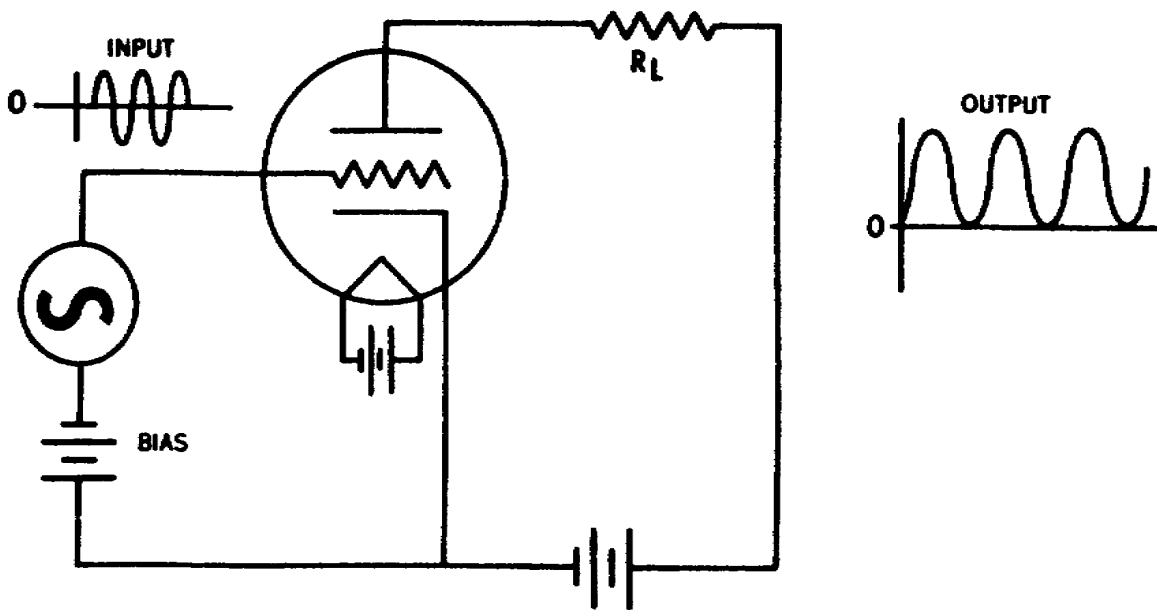

Figure 96. Triode tube operation.
16. The large variations in plate current through the plate load resistor (R_L) develops an a.c. voltage component across the resistor which is many times larger than the signal voltage. This process is called amplification and is illustrated in figure 96.